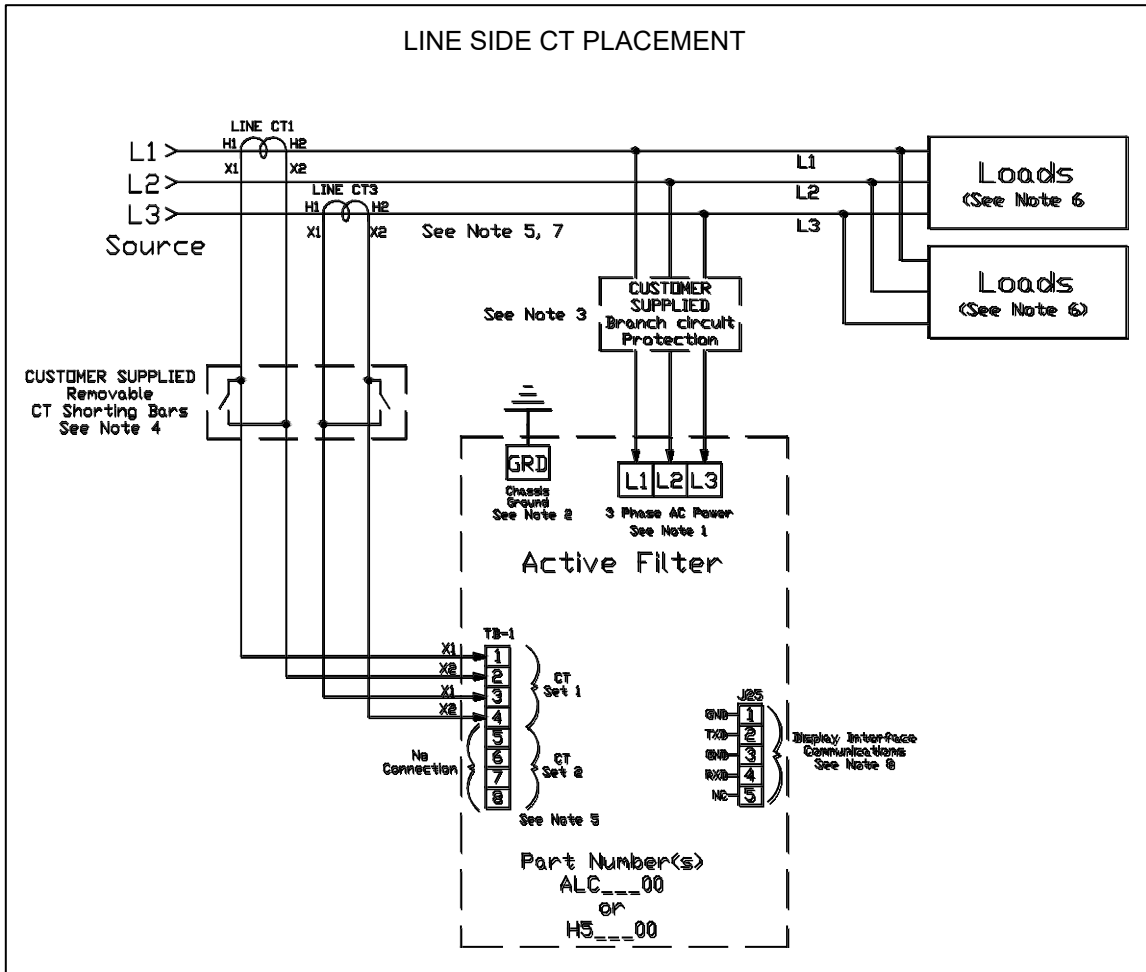
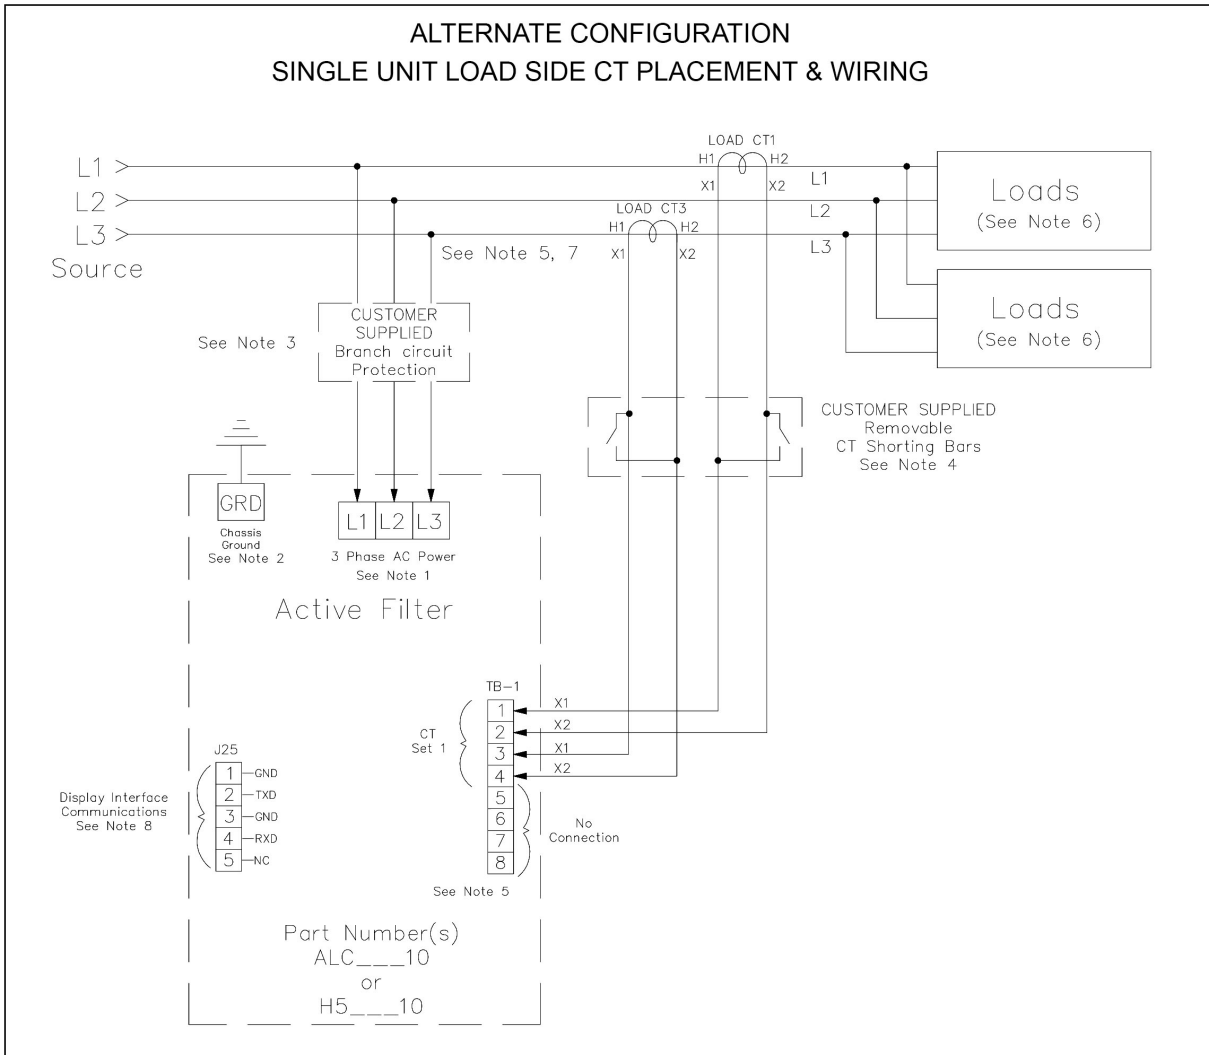

Figure 4.2: HGA 480V Single Unit Line Side / Bus Applied Connection Diagram
Figure 4.3: HGA 480V Single Unit Load Side / Drive Applied Connection Diagram
It is necessary for the HGA to monitor the current in Phase “A” (L1) and Phase “C” (L3). Stand-alone HGA filters are designed for Line Side current transformer (CT) placement as shown in Figure 4.2. It is important that both CTs are on the same side of the HGA. The CTs should be centered around the conductor. Optional Load Side CT placement is available for single units as shown in Figure 4.3.